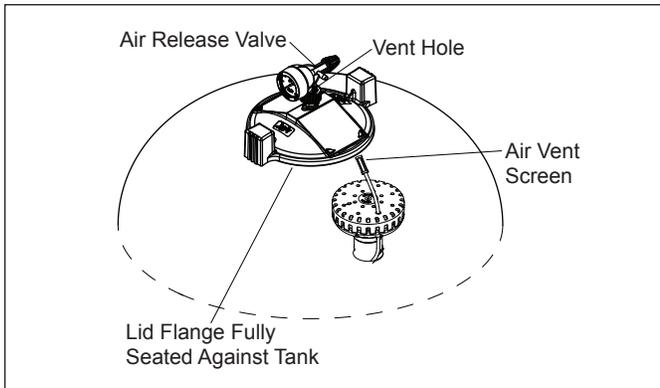

Figure 3. Filter Lid Installation
4. When the lid is fully installed, the seal flange must contact the surface of the tank. See Figure 3.